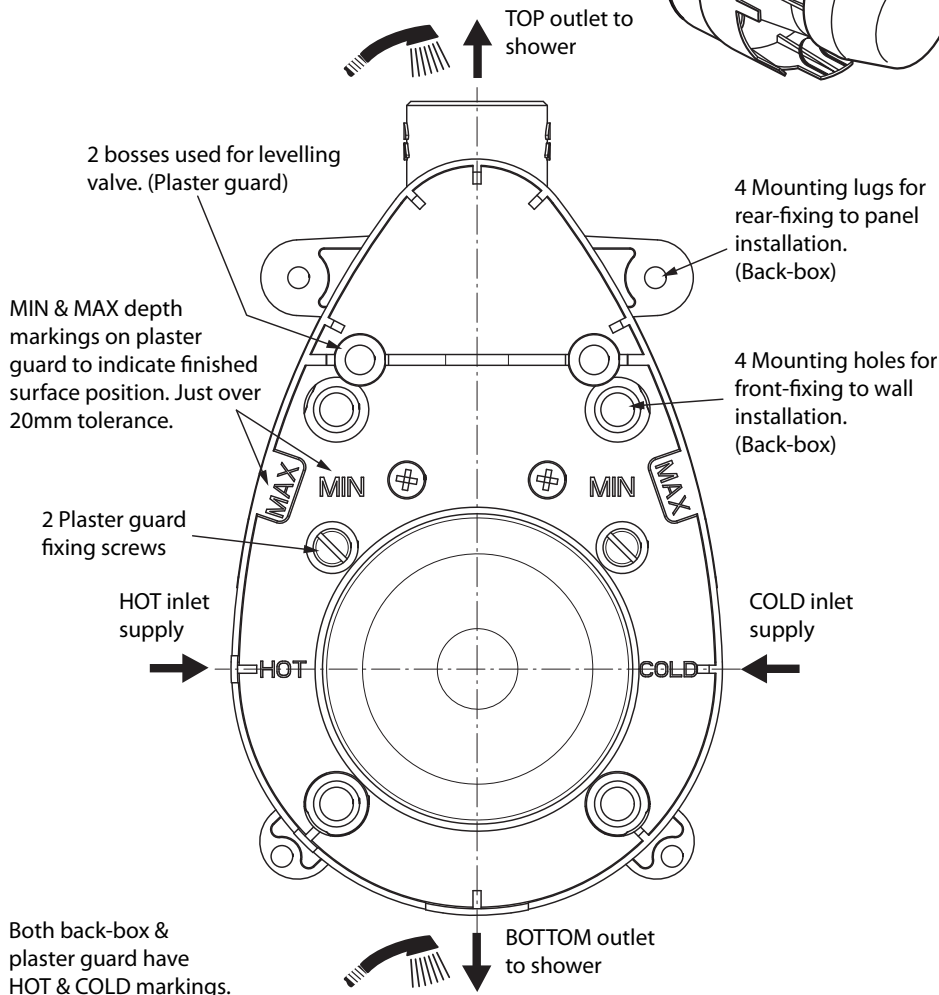

Fig.5b Valve & plaster guard assembly
- Ideally secure the back-box to a suitable surface using the holes shown in fig.5b. Ensure it is level. The pipe-work alone may not sufficiently support the valve. Running pipe-work & making connections will be easier if the valve is securely mounted.